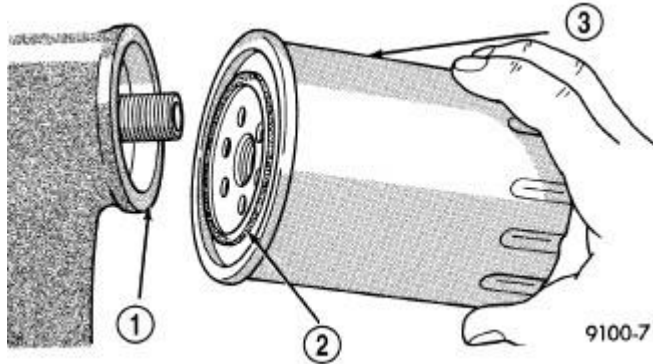

Fig. 222: Oil Filter Sealing Surface - Typical
2. Thread filter onto adapter nipple. When gasket makes contact with sealing surface, hand tighten filter one half turn, or 180°. Do not over tighten. See **Fig. 222**.